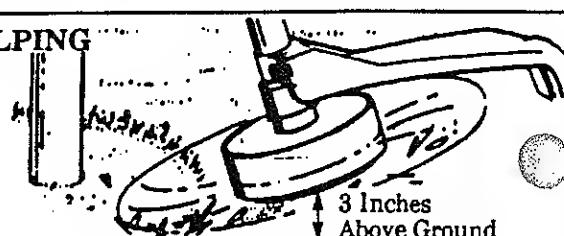

Figure 13
- SCALPING - FIGURE 13. The scalping technique removes unwanted vegetation. Hold the bottom of the trimmer head about 3 inches above the ground and at an angle. Allow the tip of the line to strike the ground around trees, posts, monuments, etc. This technique increases line wear.